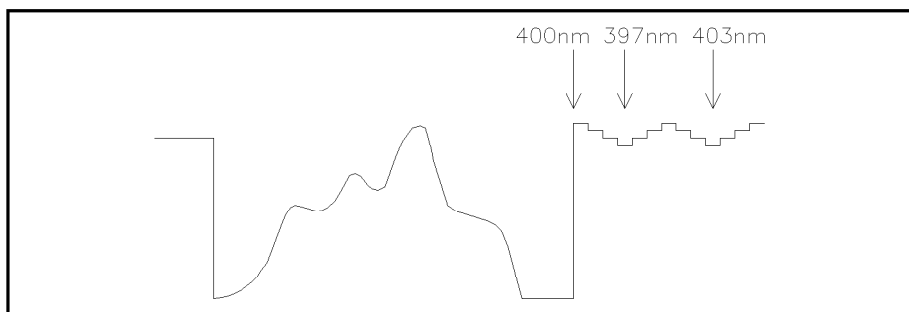

Figure 1-7. Scanning First Peak Near Fluorescence Maximum
7. Press the **▲** key repeatedly to increase the emission wavelength in steps of 1 nm. The plot will be similar to Figure 1-7.